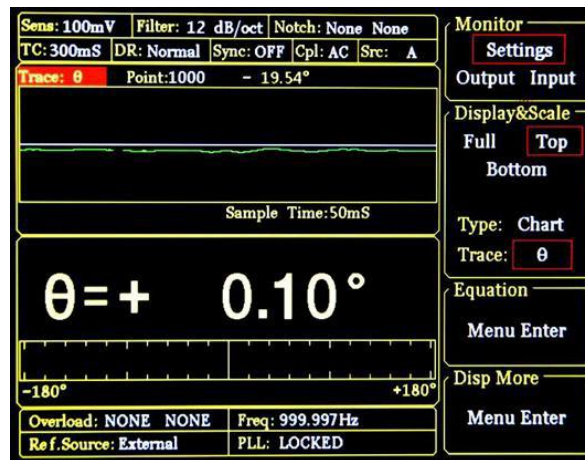

Fig.94 Display $\langle \theta \rangle$ in XY Chart
First, press [soft key 2] and choose $\langle \text{Top} \rangle$. Second, press [soft key 3] to highlight [Type] and then choose $\langle \text{Chart} \rangle$ though the knob. Third, press [soft key 3] to highlight $\langle \text{Trace} \rangle$ and then choose $\langle \theta \rangle$. After these settings, the result is shown in Fig.94.